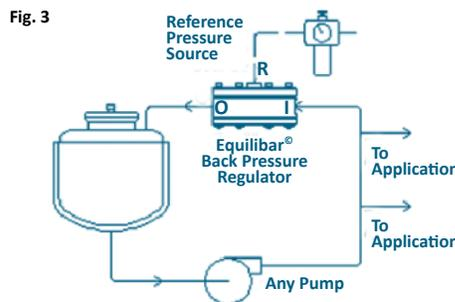

Fig. 3
**Typical Circuits:** A back pressure regulator is used to control the pressure in a system by venting any excess flow that would otherwise cause the system pressure to increase. In the example circuit shown the BPR is used to control the outlet pressure of a pump (see Fig. 3). Excess fluid is vented through the BPR back to the fluid reservoir.